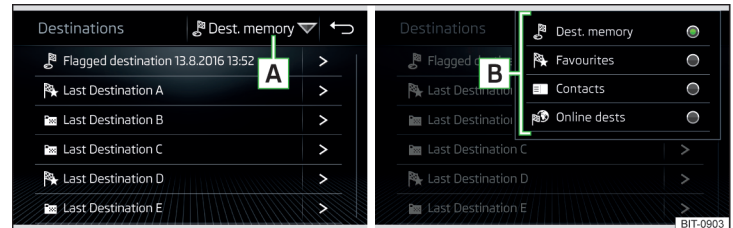

Fig. 223 Select list of stored destinations / categories of saved destinations
- ▶ Tap on function surface  » Fig. 223 and select one of the following categories of saved destinations  » Fig. 223.